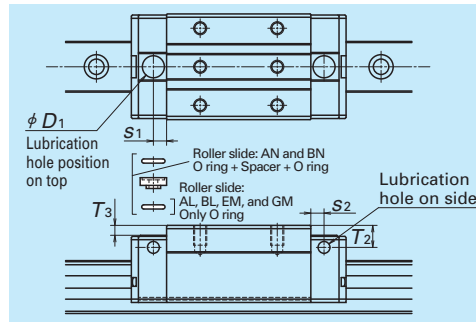

Fig.13 Top and side lubrication hole positions
- A lubrication hole can also be provided on the top of the end cap. Fig.13, Table 9 and Table 10 show the mounting position. A spacer is required for AN and BN shape roller slides. The spacers are available from NSK.